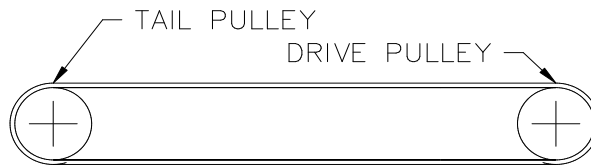

Figure 4.1 – Chain Routing for End Drive Slat Conveyor
- Install chain/slats per Figure 4.1.